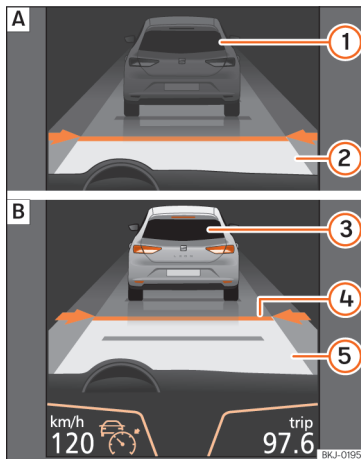
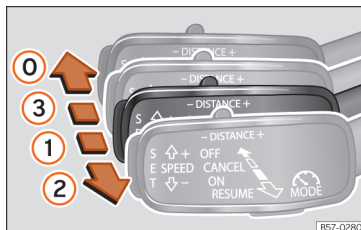

Fig. 259 On the instrument panel display: (A) ACC inactive (Standby). (B) ACC active.
Fig. 261 On the left of the steering column: third lever for operating the Adaptive Cruise Control.
Indications on the display » » **Fig. 259:**
When the Adaptive Cruise Control (ACC) is connected, the green control lamp (Ⓢ) will light up on the instrument panel, and the programmed speed and ACC status will be displayed »» **Fig. 259.**
»» Fig. 261 or press the **SET** button, respectively.
The set speed can be changed when the vehicle is stopped or during driving, as you like. Any modification to the programmed speed will be shown on the bottom left part of the instrument panel display »» Fig. 259.
»» Fig. 261. At this point, the image of the ACC on the instrument panel display will switch to Active mode »» Fig. 259.
To disconnect the ACC move the lever to the ③ position »» Fig. 261 (engaged). An **ACC deactivated** message appears and the function is totally deactivated.
»» Fig. 261 or press the brake pedal.